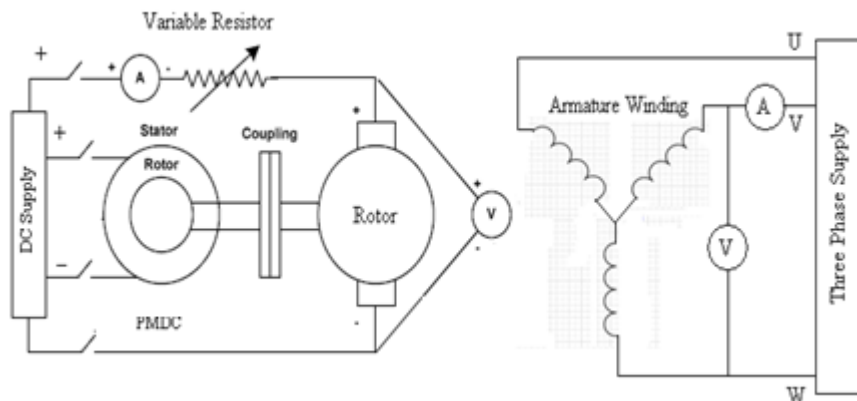

Figure 11.3. Starting of synchronous motor using prime mover
1. Connect circuit as shown in Figure 11.3